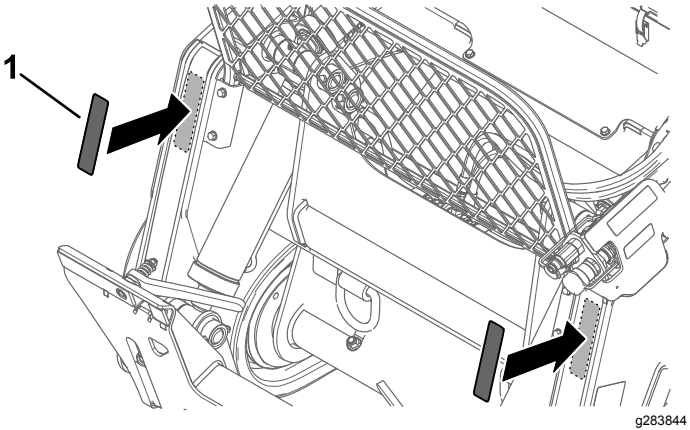
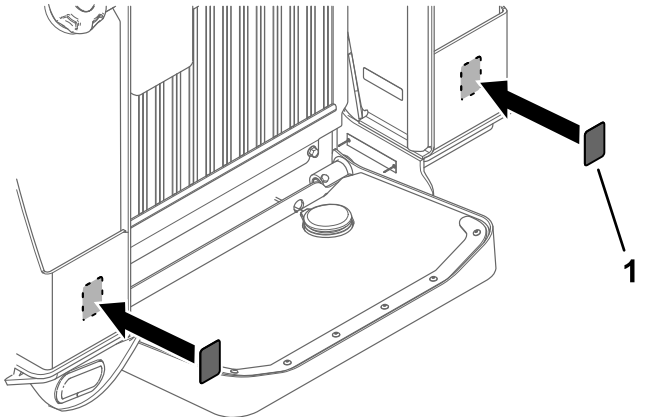

Figure 13
Figure 14
1. Thoroughly clean the surfaces on the back of the machine and the front of the loader arms in the locations shown in Figure 13 and Figure 14.